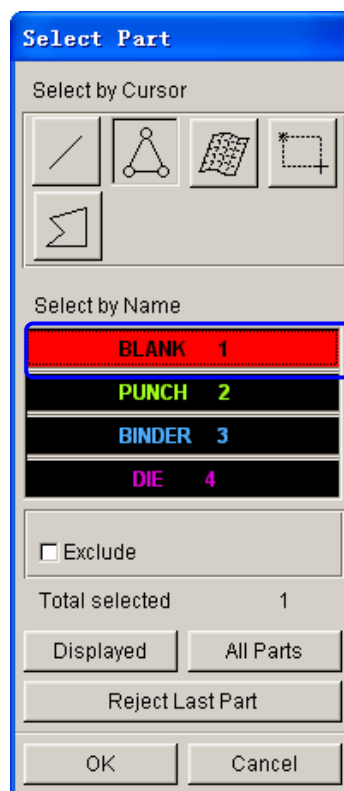

Figure 2.12 Select Part dialog box
4. Click **Add Part...** button to display the SELECT PART dialog box illustrated in Figure 2.12. Let's use the mouse cursor to select **BLANK** part from the dialog box.